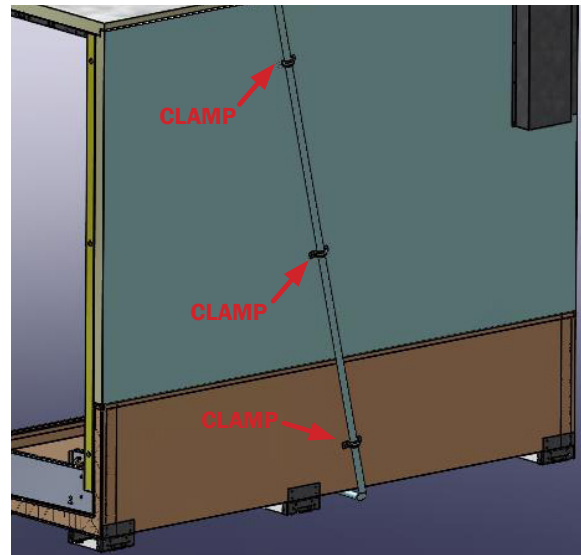

Fig. 33 Tubing clamps
6. Now fix 3 of the tubing clamps provided in the package at equal intervals at the rear of the case. While fitting the clamps ensure there is sufficient slack in the tubing of the assembly to prevent any form of tension or breakage at the drain adapter (Fig. 33).